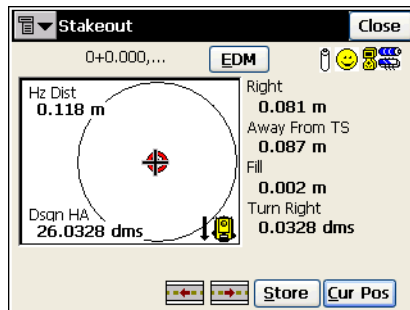

Figure 7-37. Stakeout Road. Stakeout.
- For TS: sight the prism. In the **Stakeout** screen, tap the **Cur Pos** button to measure the target. Use the **EDM** button to select distance measurement mode: Coarse, Fine or Coarse Tracking. Once the position is close enough to the desired one, tap **Meas** to store it. Tap the  /  button to retreat / advance the station by the specified Station Interval, for staking out at the previous / next station, respectively (Figure 7-37).